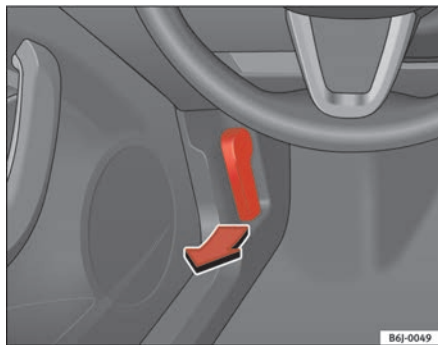

Fig. 113 Bonnet opening lever
- To release the bonnet, pull the lever under the dashboard ⇒ **fig. 113** in the direction indicated (arrow). The bonnet will be released by a spring action ⇒